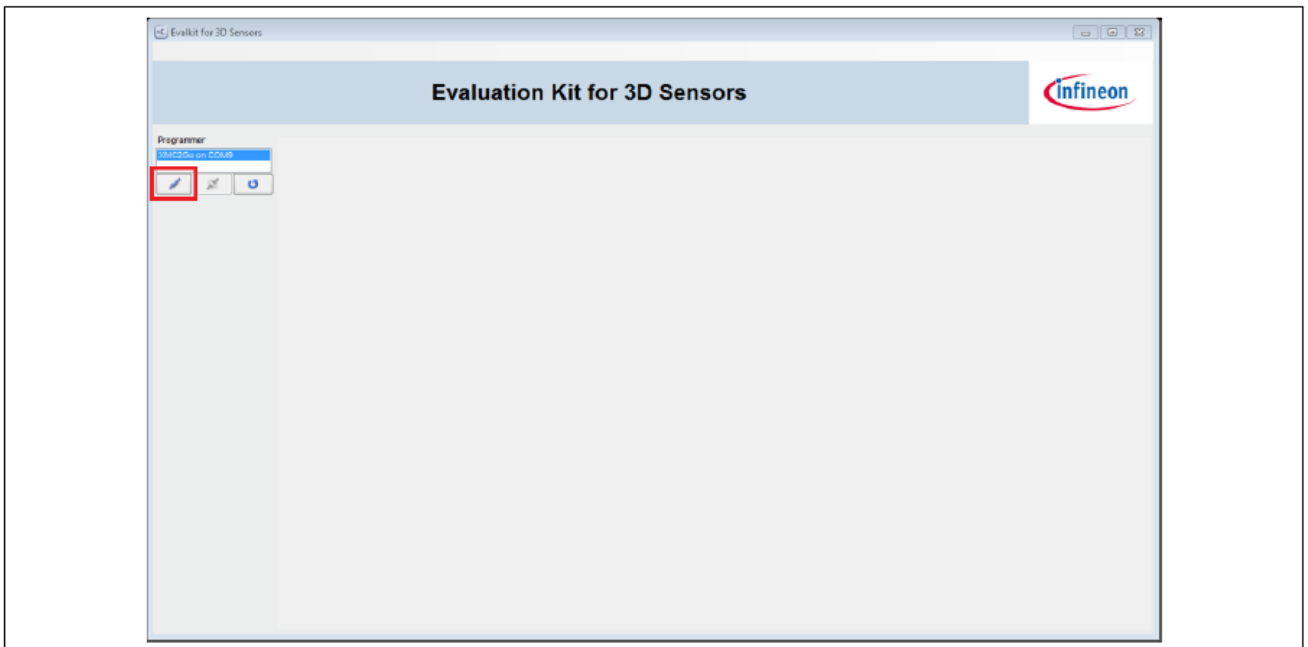

Figure 25 Establish the connection to the EvalBoard
2. Open the 3D 2Go GUI by clicking the shortcut in the start menu. On the top left side you should find the XMC2Go board in the list. If not, check that the EvalBoard is correctly connected to the PC and the J-Link driver is installed. Click on the Connect to selected programmer button which is marked in Figure 25 to establish the connection with the 3D Magnetic Sensor 2 Go kit. The first time you connect the board, a firmware will be downloaded to the XMC1100 which takes short time. This is indicated by the blinking power LED on the EvalBoard.